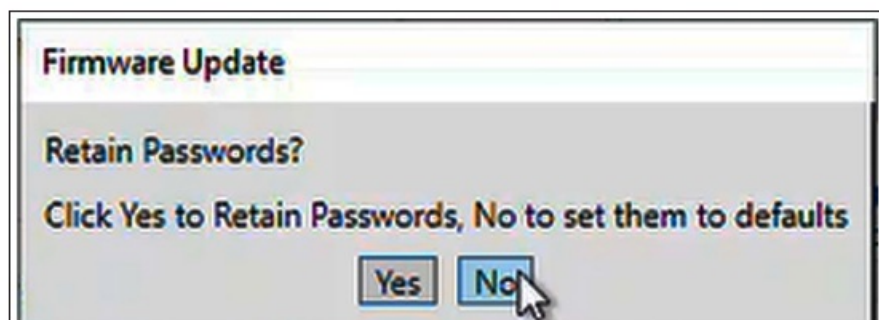

Figure 22. The Firmware Update dialog box requesting password retention.
- **STEP 11.** When upgrading the firmware from version 7.3.x to 7.5.x and the Firmware Update dialog box prompts to retain passwords, click on one of the options to proceed. See Figure 22.